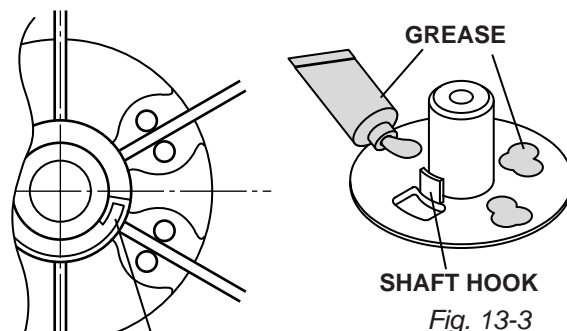

Fig. 13-3
(1) Put the reel back into the case
- 1 Apply grease to the surface of the case. (Fig.13-3)